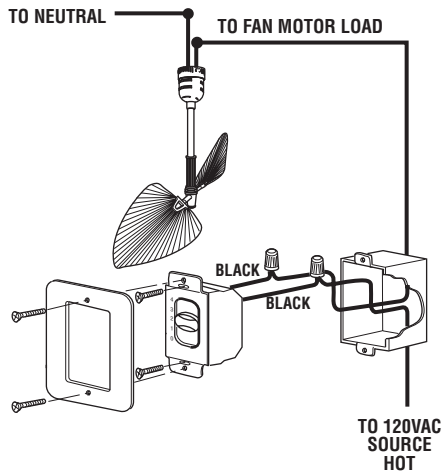

Figure 8
- 4. Connect one BLACK wire from the fan control to the fan/motor load wire with a wire connector (provided) (Figure 8).